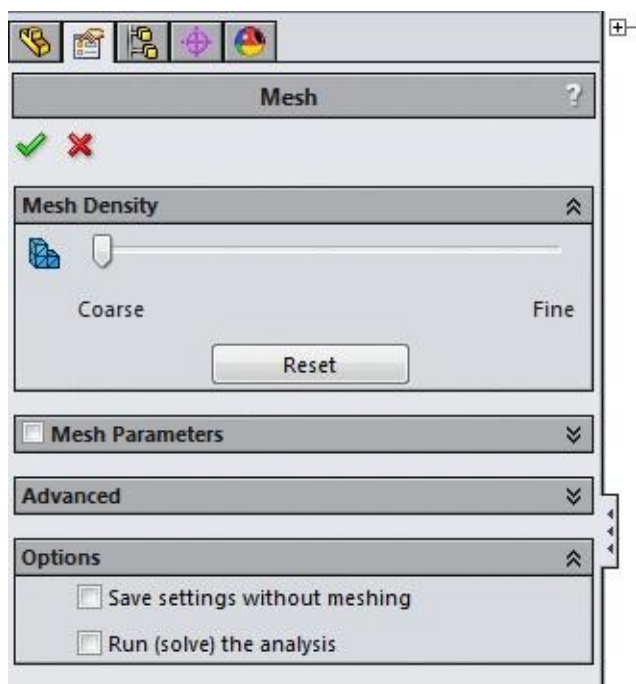

Figure-23. Coarse mesh density
- Move the slider to extreme left in the **Mesh Density** rollout in **PropertyManager**; refer to Figure-23.